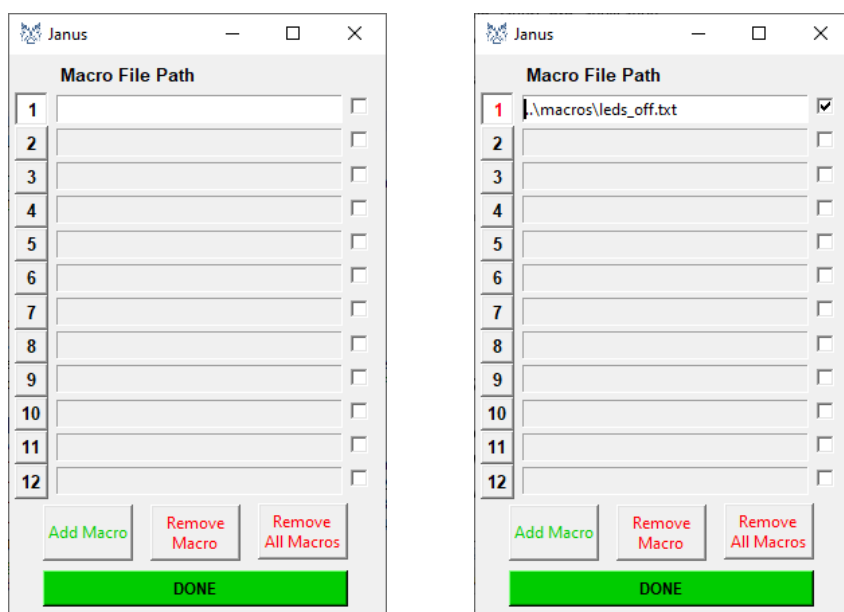

Fig. 3.4: "Load Macro" window.
- *Load Macro*: Additional settings can be loaded by means of a .txt file and appended in the configuration of FERS (see **Fig. 3.4**). See for example, in the "macros" folder, the file "leds_off.txt". To select a macro, click on "Add Macro" button and select the specific file. Once ready, press the "DONE" button to upload the macro. Finally, click on "Remove Macro" and "Remove All Macros" to remove one selected macro or all macros, respectively.